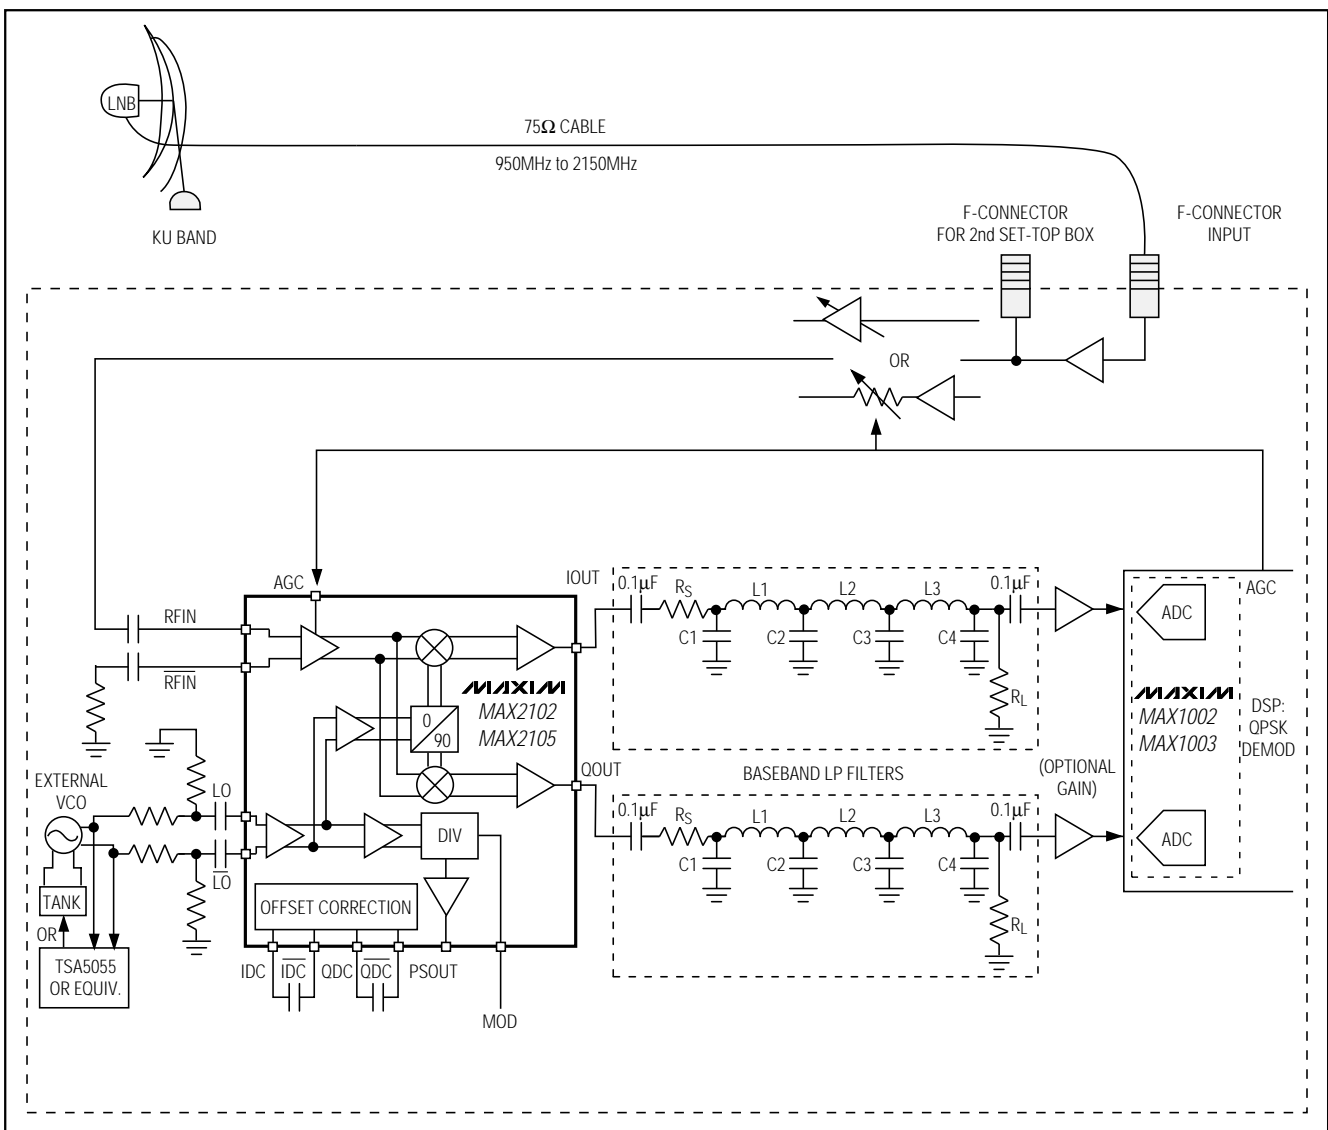

Figure 2. Typical Application
**Note:** Suggested types: Inductors: Coilcraft 1008CS, tolerance = ±5%; Capacitors: use tolerance = ±2%. Refer to Figure 2 for circuit diagram.